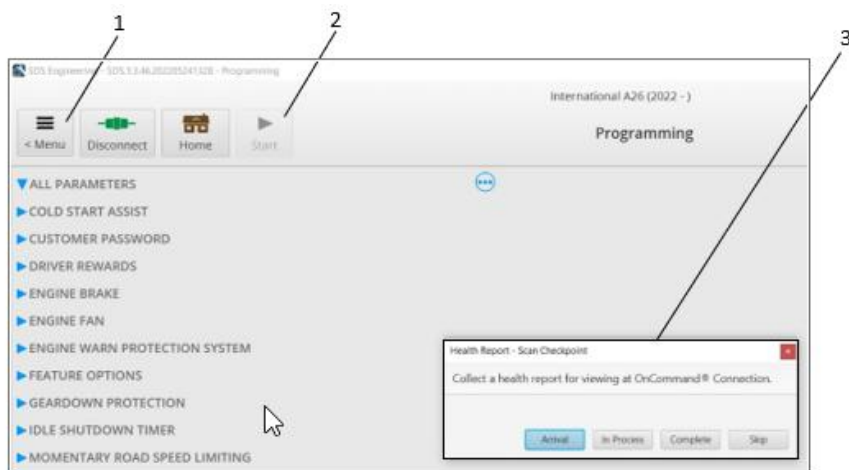

Figure 1. SDS Pro Screen
10. Complete the health Report - scan checkpoint (figure 1, then item 3).
15. Click Start tab (figure 1, item 3).
20. Under Menu tab (figure 1, Item 1) Click **"ALL Parameters"** tab, type in the **Search/Filter box "3900"** to confirm parameter change has been successfully updated.